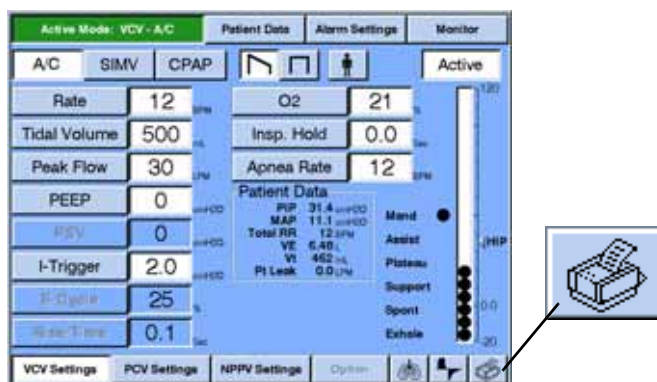

Figure 13-23: Communications-Print Option Button (Printer Icon)
Using the Communications option does not affect ventilation or monitoring. The Communications option button (a printer icon) is displayed in the lower right corner of the screen (Figure 13-23). The printer icon is gray if the Communications option is not installed, not available, or a print is in progress.
1. Turn on the ventilator in ventilation mode and connect it to a VueLink Module as shown in Figure 13-23.